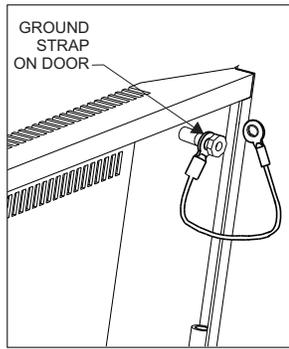

Figure 5
4. On the right side of the outer door, remove the ground strap. Reinstall the ground strap on the left side of the outer door. (Refer to Figure 5, page 4.)